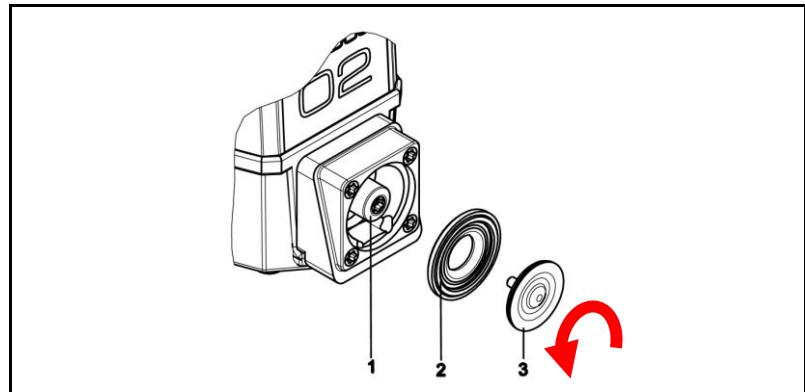

Fig. 67: Replacing the pump diaphragm
3. Lift pump membrane (3) at opposite side edges, grip and screw out by turning anticlockwise (see arrow in Fig. 67)